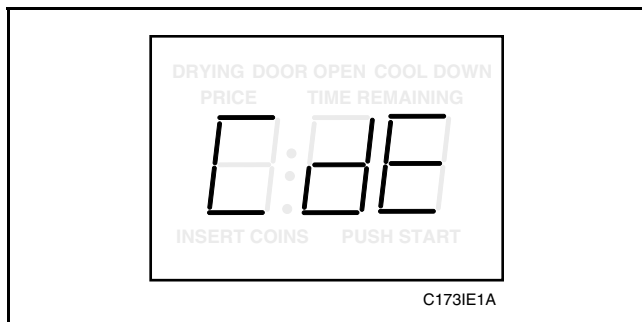

Figure 89
3. Press the LOW TEMP (+) pad **or** the NO HEAT (-) pad to scroll through the programmable options until “CdE” appears in the VFD, *Figure 89*.